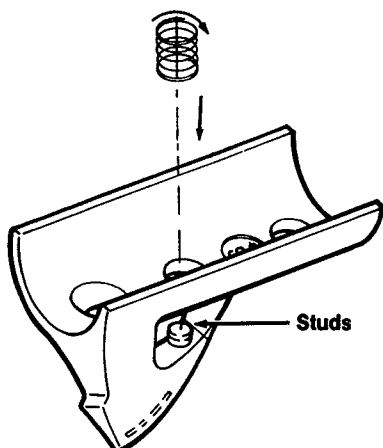

Figure 44. Flight Spring Installation
- H. Turn springs onto threaded studs of flights. (See Fig. 44.)